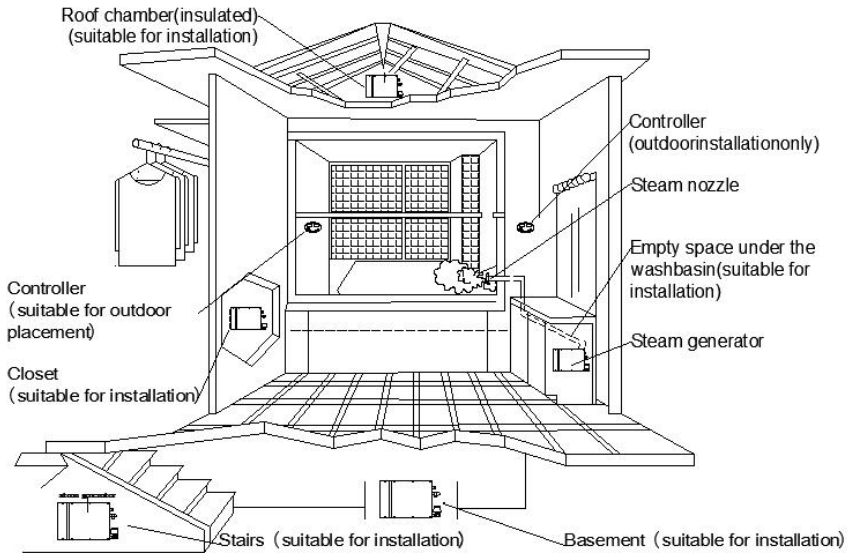

Fig.1
1. The steam generator can be installed on the wall or the ground, but it must be firm. The steam generator should be installed far from the bathtub or bathroom. Fix the machine on a vertical wall. First loosen the two screws on the machine cover and remove the outer cover. There are two holes on the machine cover's upper left and upper right for fixing the machine on the wall. Next, fix the rear cover and install the outer cover. In order to provide good maintenance services, the nameplate must be placed in a visible place, and the machine must also be installed in a place convenient for maintenance. Please refer to the installation recommendations (Figure 1).
3. Steam outlet - the steam pipe shall be made of copper pipe with a diameter of no less than 4 cm (it is forbidden to use because the black metal or galvanized pipe will rust and discolor the wall of the steam room). The steam pipe's length shall be at least 3 meters at most. If the length of the steam pipe exceeds 3 meters, it shall be insulated (please refer to Figure 1)